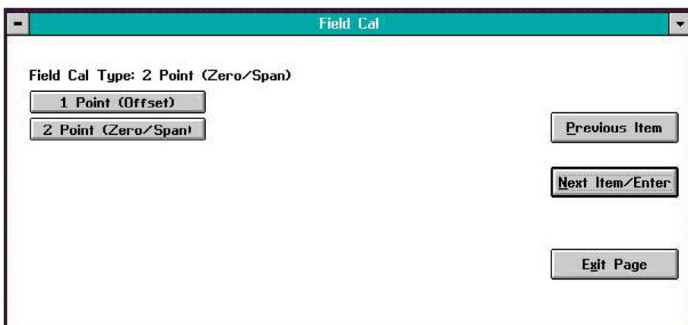

Figure 18: Field cal type window
5. In the Field Cal Type window (shown in *Figure 18* on *page 21*), click on either the 1-Point or 2-Point button. Then, click on any button on the right to return to the Configure Cal window
A typical Field Cal Type window is shown in *Figure 18* below.